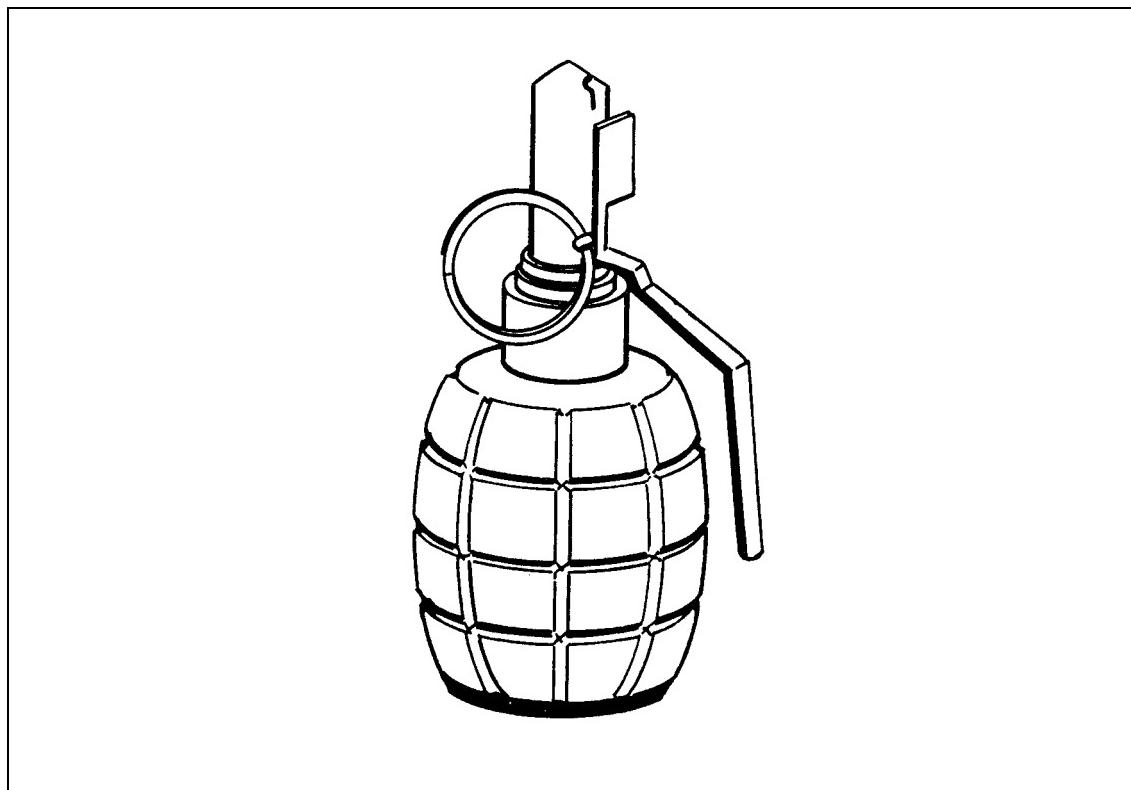

Figure D-3. F1 hand grenade.
- Type: Fragmentation. (Figure D-3)